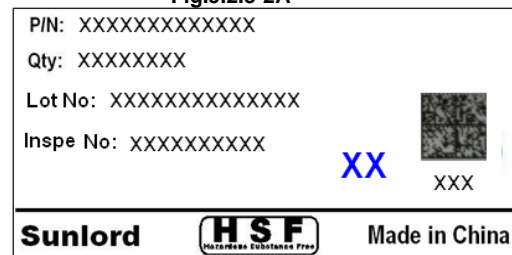

Fig.9.2.3-2B
2) Marking on outer case (Refer to Fig.9.2.3-3~5):